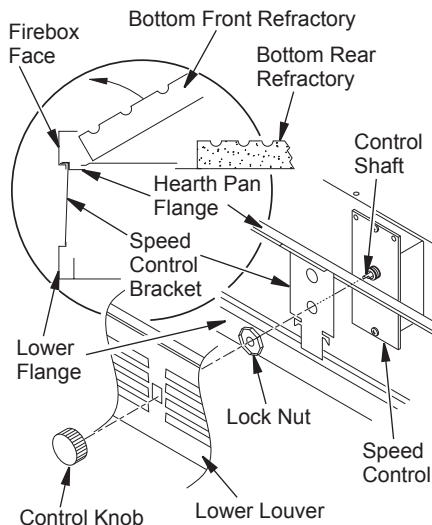

Figure 8 - Attaching Speed Control to Firebox with Panel Louvers Using Speed Control Bracket 109892-02
- Position speed control bracket by inserting flange of bracket between hearth pan and upper flange of louver opening, then seat bottom end of bracket onto lower flange of louver opening (see Figure 8).
- Mount speed control box by placing plastic control shaft through bottom hole on speed control bracket. Top screw head on control box will fit inside top hole on bracket (see Figure 8). Secure speed control to bracket with lock nut by pushing and turning lock nut with pliers clockwise until it is tight against bracket.
- Place louver panel, louvers pointing up, back into framed opening. Align control shaft with rectangular opening by sliding control bracket along flange (see Figure 8).
- Place control knob, provided, onto control shaft (see Figure 8).